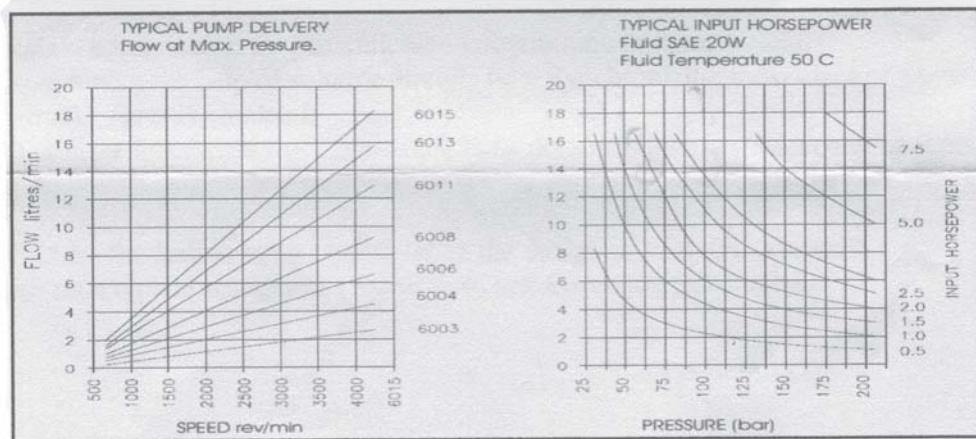

Figure 1
- b) Analyze, performance curves shown in Figure 1. of a typical pump. [8]